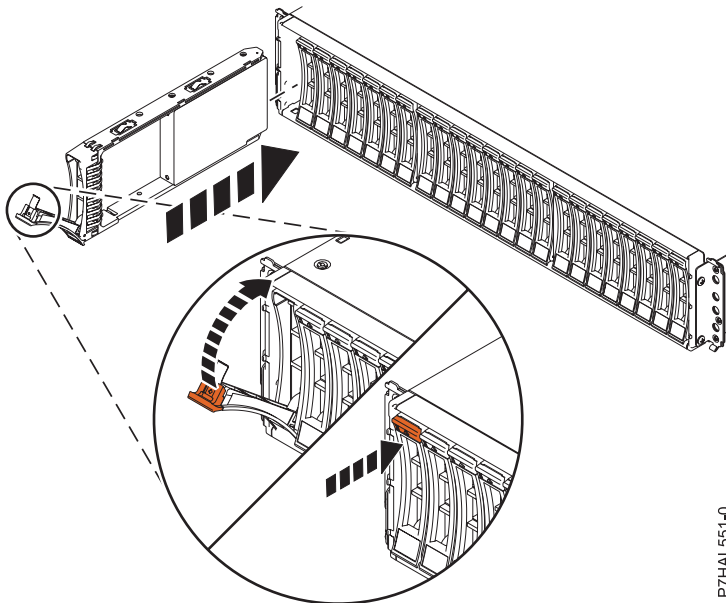

Figure 2. Installing the disk drive in the 58/87 disk drive enclosure
- With the handle in the unlocked position, see Figure 2 on page 8, support the bottom of the drive as you align it with the guide rails in the expansion unit.